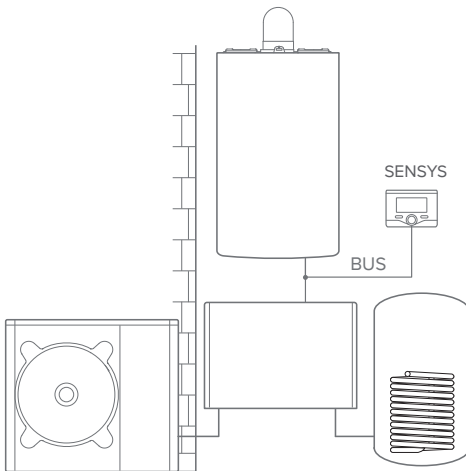

fig.11
**Type 6****Activation of RD and RC in a basic hybrid system with domestic water cylinder (Fig. 11)**